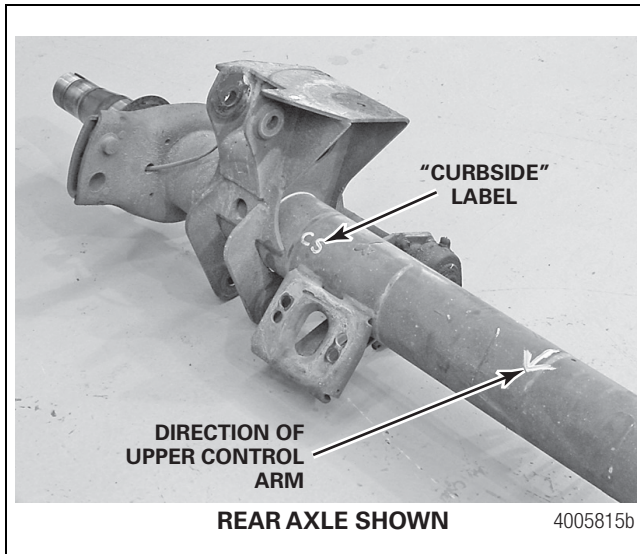

Figure 2
14. Use a marking device such as chalk to apply reference marks on the axle. It is important to add these marks before turning the axle over to eliminate any confusion and possibility for error. If possible, place the marks toward the center inboard side of the axle, and up and over the top to ensure that the marks remain during the axle seat replacement procedure. Figure 2.